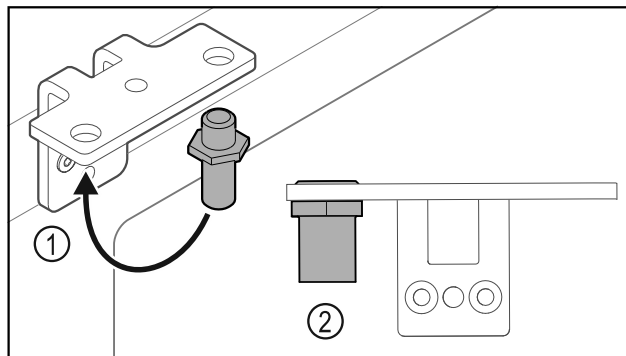

Fig. 37
- Put the pin back into the hinge Fig. 37 (1).
- Tighten the pin Fig. 37 (2) to a **torque of 12 Nm**.